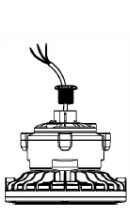

Fig. 7
1. Unscrew the compression nut on the fixture (Fig. 7).